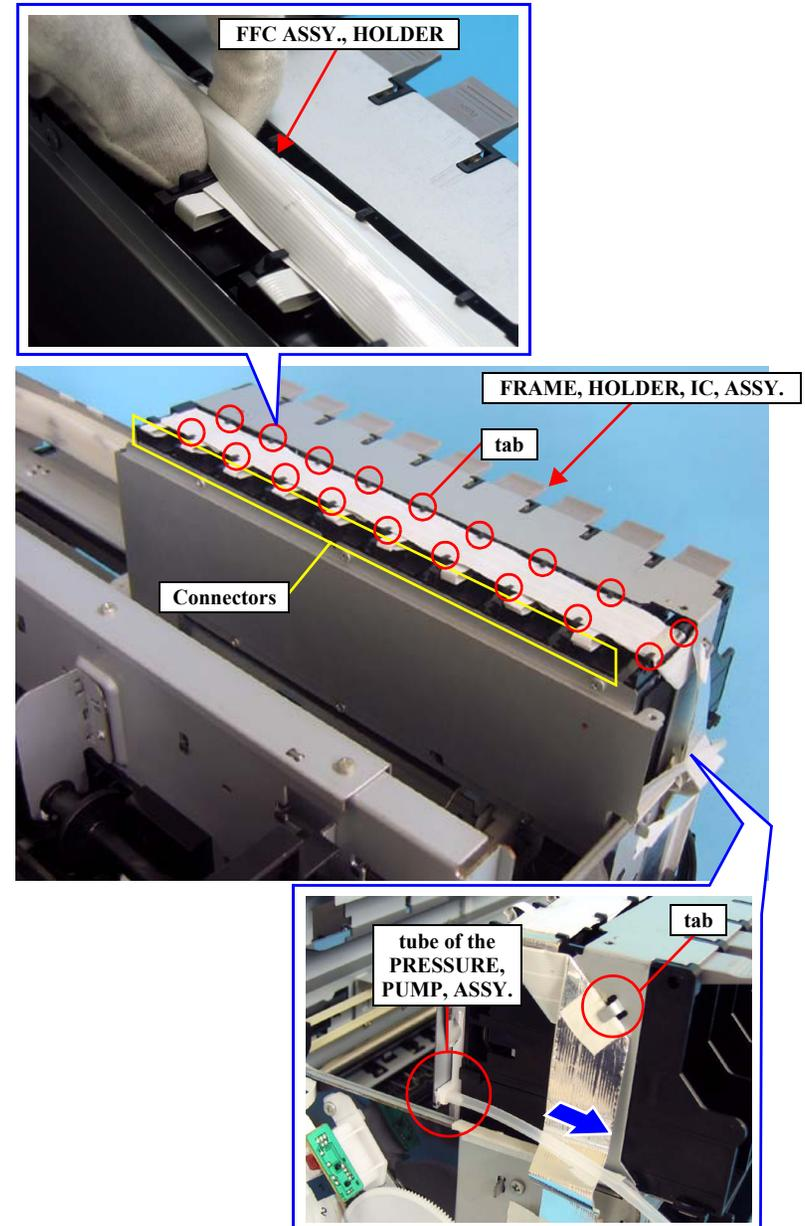

Figure 4-81. Releasing the FFC ASSY., HOLDER
4. Pull out the tube of the PRESSURE, PUMP, ASSY. from the left side of the FRAME, HOLDER, IC, ASSY. See *Figure 4-81*.